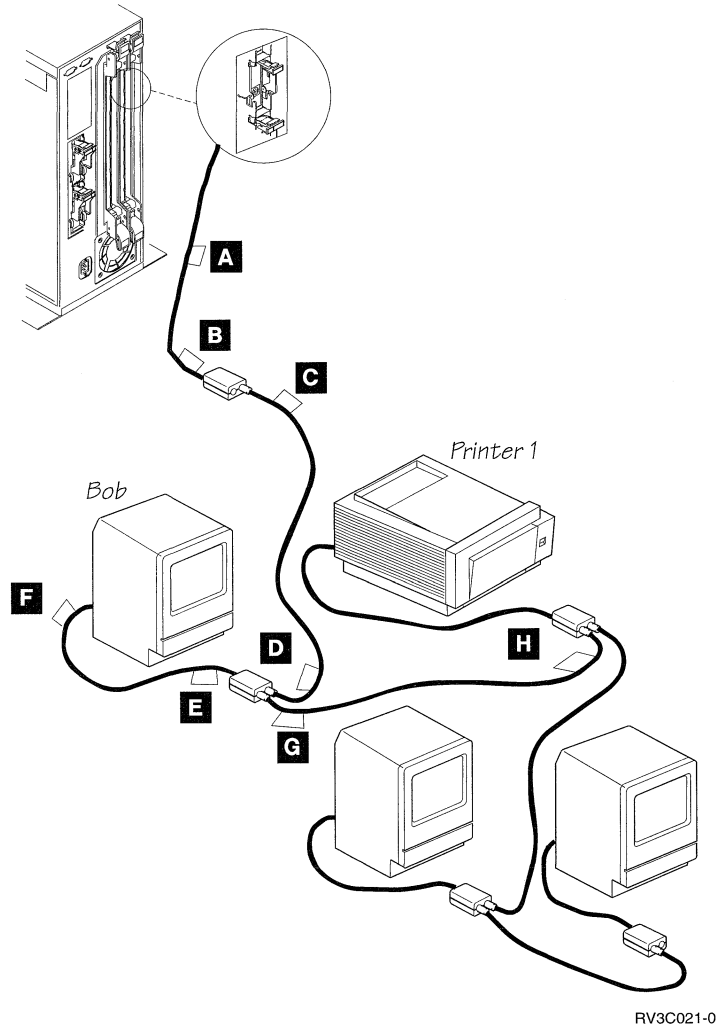

Figure 7-3. Labeling Apple Workstation Cables
Refer to Figure 7-3 on page 7-8. For the sample points indicated, you would make labels as shown in the table below. You should make a label for each end of all other cables in the system.
- Step 1** Study Figure 7-3 for an overview of Apple workstation cable labeling.